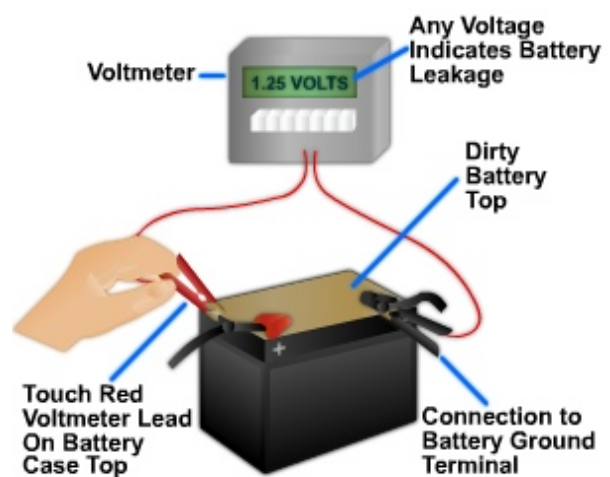

Figure 8-3 — Battery leak test.
- A battery leakage test will determine if current is discharging across the top of the battery. A dirty battery can discharge when not in use. This condition shortens battery life and causes starting problems. To perform a battery leakage test, set a voltmeter on a low setting. Touch the probes on the battery, as shown in *Figure 8-3*. If any current is registered on the voltmeter, the top of the battery needs to be cleaned.